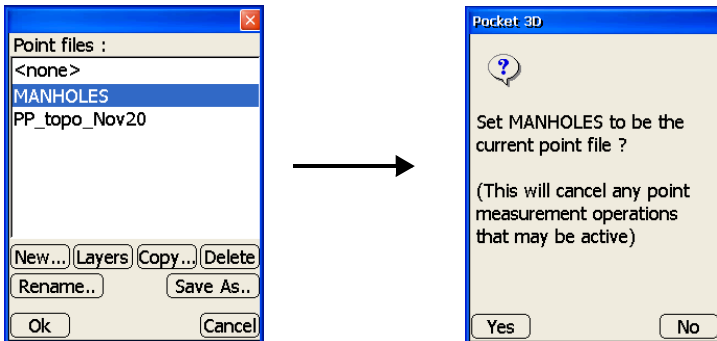

Figure 2-42. Confirm Setting File as Current File
6. Press **Ok** until you return to the *Point files* dialog box. Then with the desired linework file selected, press **Ok**. At the *verification* screen, press **Yes** to set this as the current Point file (Figure 2-42).